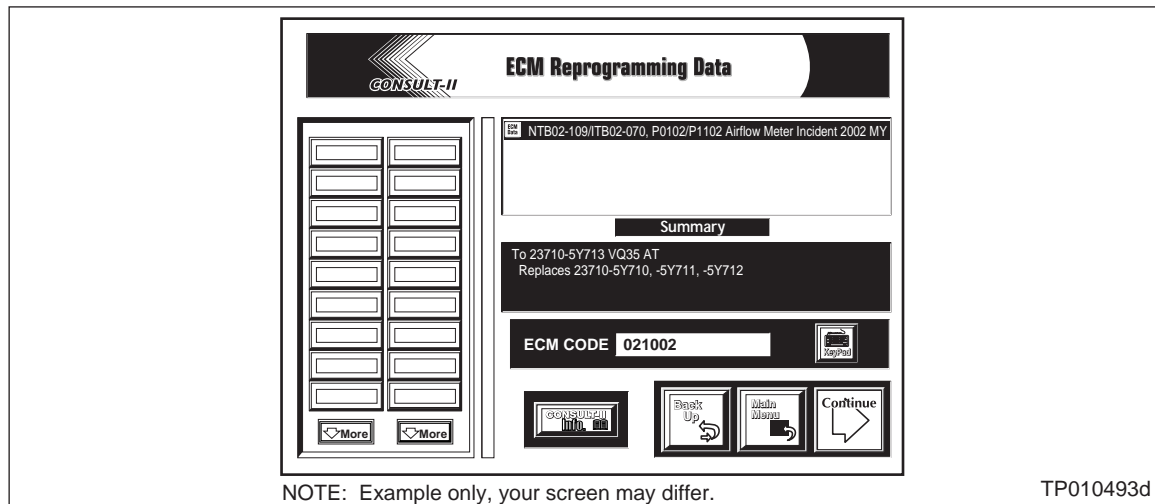

Figure 3
- Click the "Continue" button on the ECM Data Reprogramming screen (see Figure 3) to proceed to CONSULT-II setup.